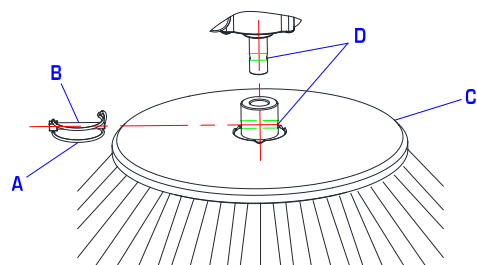

Figure8
1) Drive the machine on a level ground and release the pedal (2) and stop the machine.
3) Release the spring (A, Fig. 8), remove the pin (B) and the brush (C) from the gearmotor shaft.
4) Install the new side brush on the gearmotor shaft, insert the pin (B, Fig. 8) in the holes (D, Fig. 8), and engage the spring (A, Fig. 8).